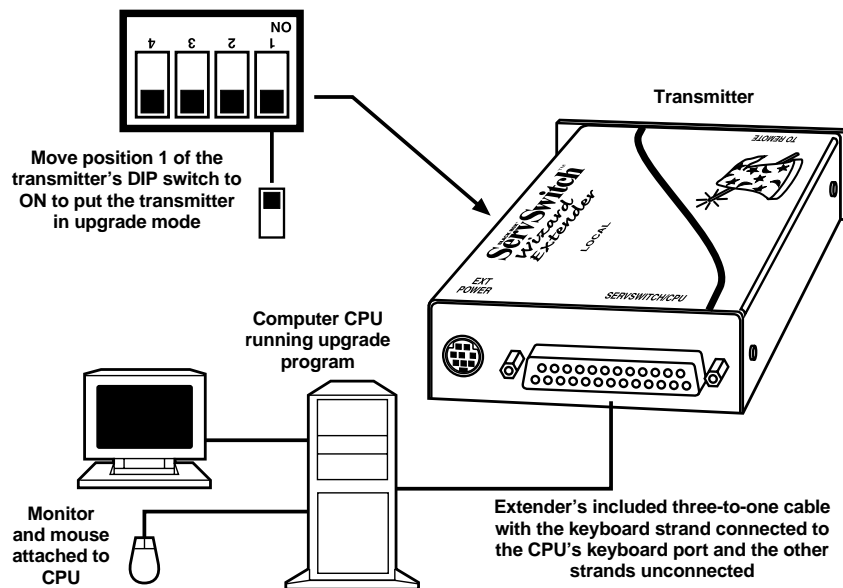

Figure 6-1. Upgrading the transmitter.
5. Connect the transmitter to the computer that will be running the upgrade program as shown in Figure 6-1. You only need to connect the keyboard strand of the three-to-one cable between the transmitter and the computer. Plug the monitor and mouse directly into their normal ports on the CPU. Plug the monitor and mouse directly into their normal ports on the CPU.